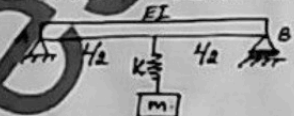

Fig.Q3(c)
c. Evaluate the natural frequency of and natural period for the structural system shown in Fig.Q3(c), when $L = 3.6\text{m}$, $E = 22000\text{ MPa}$, $I = 1.2 \times 10^{-4}\text{ m}^4$, $k = 40\text{ kN/m}$, $m = 10\text{ kN}$.